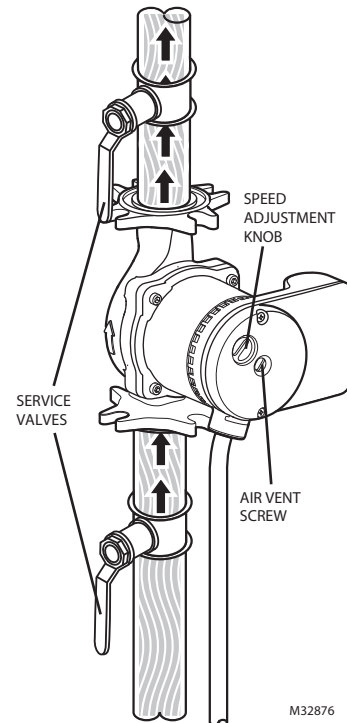

Fig. 9. Bleed the circulator by loosening the air vent screw.
- Turn the speed adjustment knob clockwise to increase the speed (see Fig. 9).
Rotor/shaft stuck	- Isolate the pump from the power supply. - Remove the vent screw (see Fig. 9). - Turn the shaft clockwise using a small screwdriver. - Screw in the vent screw. - Switch on the pump.